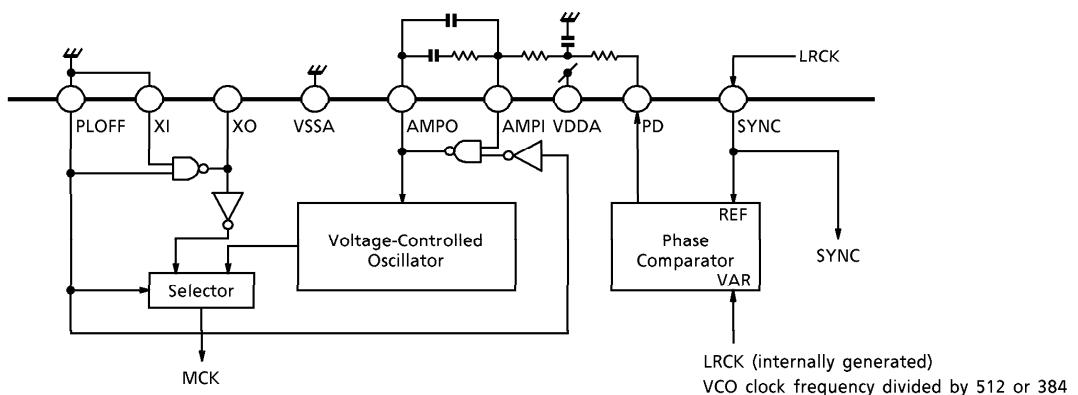

Fig.3 Example of Configuration of a Basic PLL Circuit
The clocks required for internal operations are generated by an built-in VCO. The signal input from the SYNC pin is used as a reference. Configure the phase-locked loop as shown in Figure 3. A phase-difference (PD) signal is output from the PD terminal.